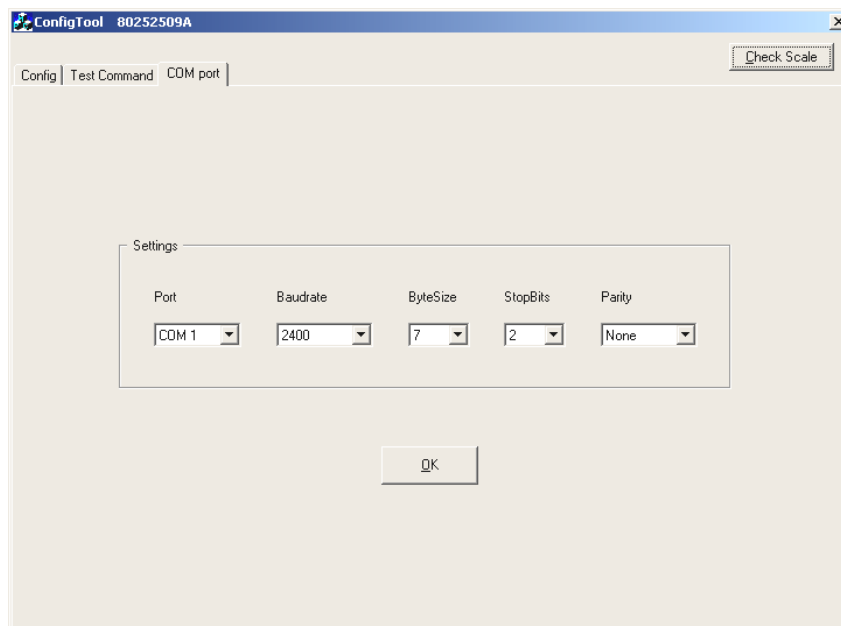

Figure C-4. Com Port Configuration screen with correct settings.
If the settings do not match, click the arrow next to the parameter and select the correct value. (See Figure C-4.)
9. Click the **Test Command** tab to test the communications. (See Figure C-4.)